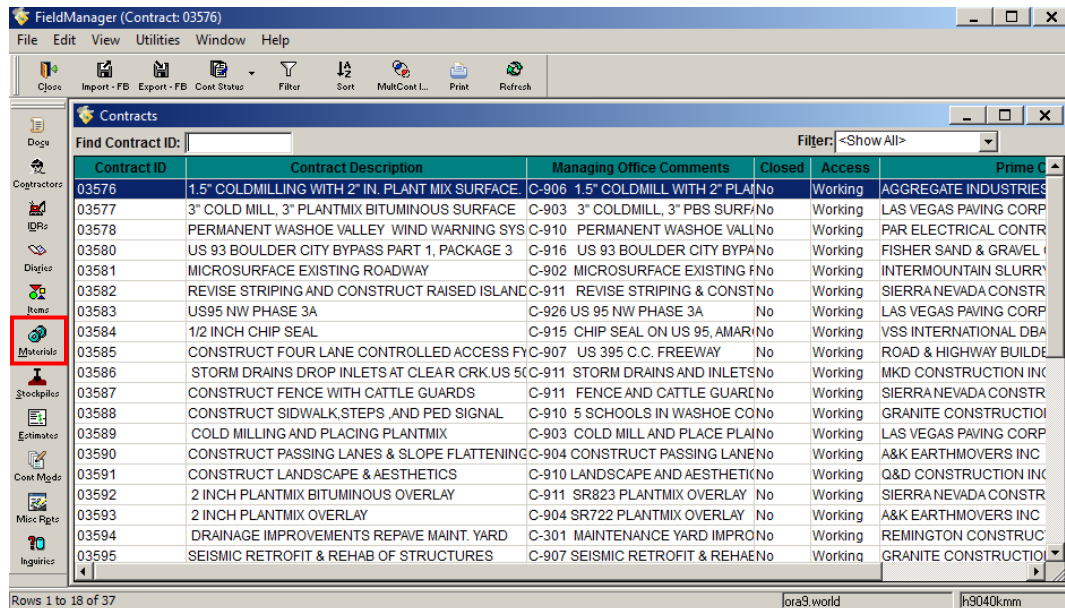
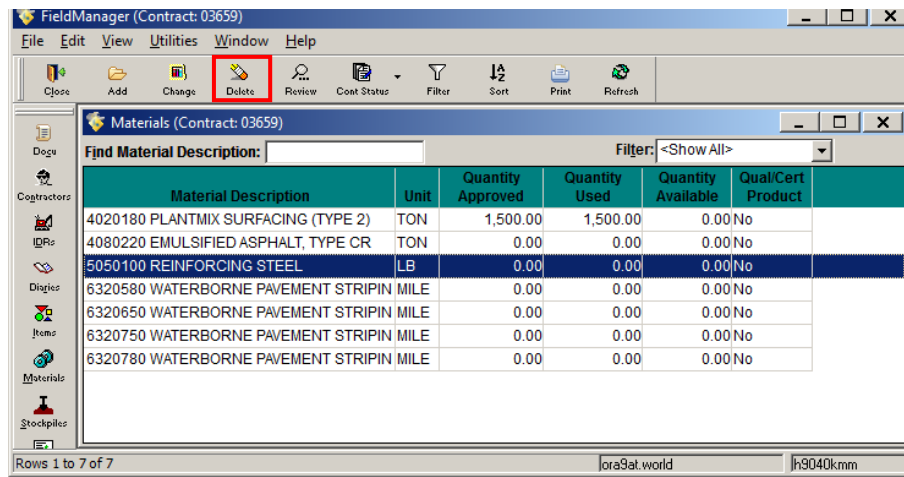
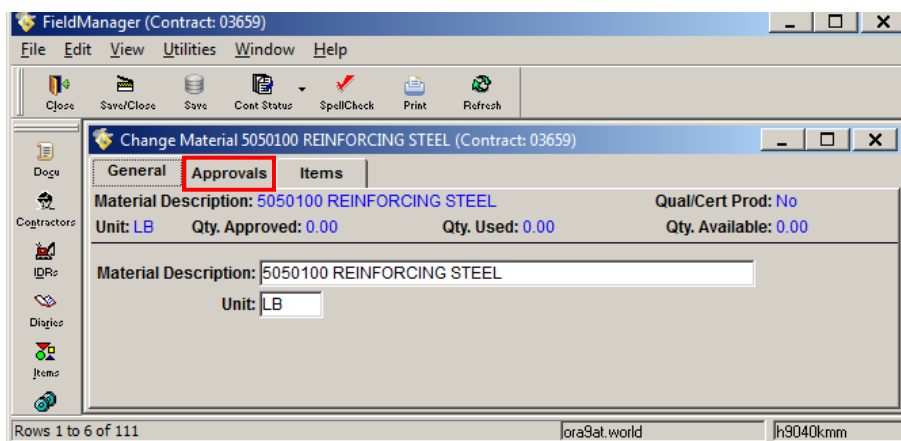

Figure 6-8. FieldManager Contracts List Window
Figure 6-9. Materials List Window
Figure 6-10. Change Material Tab Window – General Tab
1. Select the contract in the Contracts list window, and click Materials on the Application Toolbar (Figure 6-8). The Materials list window opens (Figure 6-9).
- Click **Change** on the Window Toolbar (Figure 6-9). The Change Material Tab window opens with the **General** tab displayed (Figure 6-10).
- Click on the **Approvals** tab (Figure 6-10).